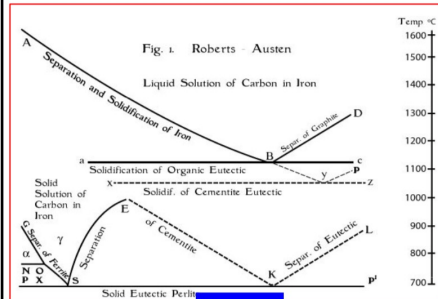

Figure 1
- Iron – carbon (Fe-C) diagram and first phase diagram of any alloy to be established, done by Roberts –Austen in 1898 after whom austenite came to be named. (Figure 1)